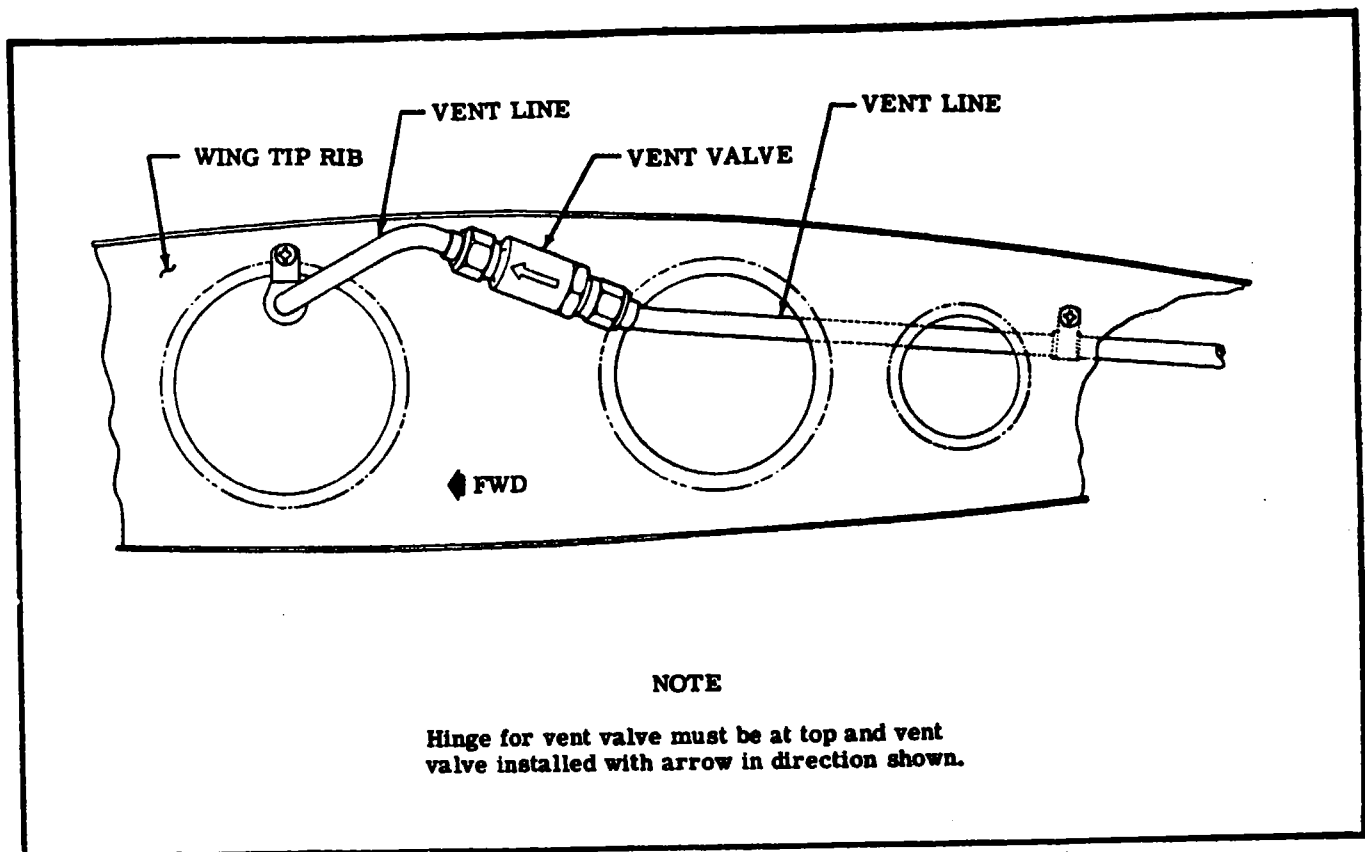

Figure 13-6. Fuel Bay Vents
13-29. REPAIR. (See figure 13-6.) The fuel selector valve may be repaired by disassembly, replacement of defective parts and reassembly as follows:
Install all parts in the relative position illustrated in figure 13-6, otherwise the valve will not operate correctly.
- Install O-ring (18) in body rotor shaft hole. Install O-rings (19) and teflon seals (20), then slide rotor shaft into place. Position rotor in exact relative position shown in figure 13-6, then install O-ring (22) and sump plate (23).
- Install .169" diameter pins in body ports, then slide springs (17), washers (16), O-rings (15) and teflon seals over pins. Slide rotor (21) over shaft. Remove .169" diameter pins and, readjusting rotor (12) vs. rotor shaft (21) position as necessary, tap roll pin (13) into place, letting it protrude on the side illustrated.